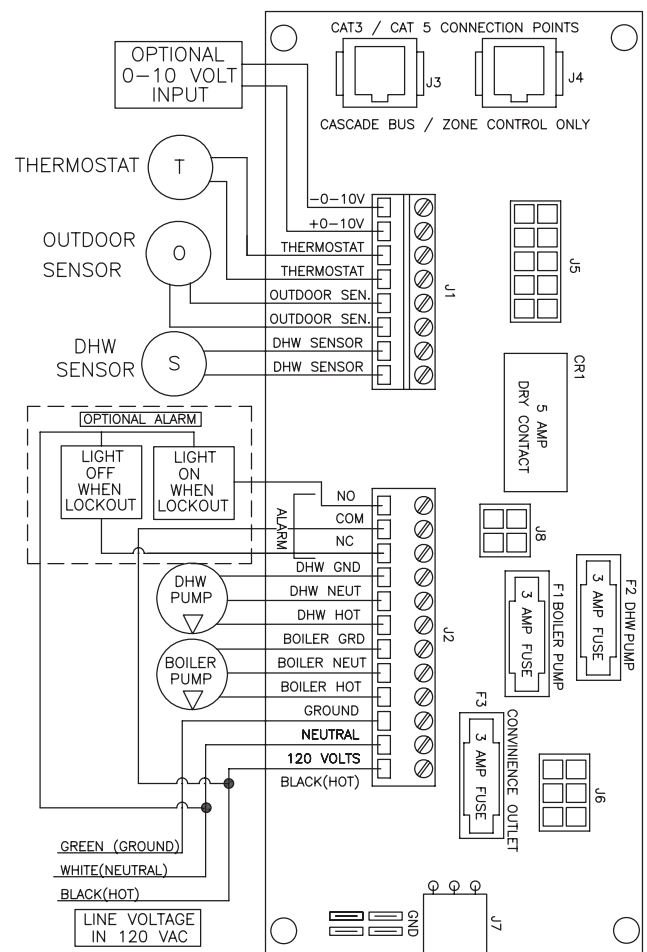

Fig. 16: XFire Single Heater Control
1. Connect the room thermostat to the terminals marked THERMOSTAT in the electrical junction box (shown in Fig. 16). Alternately, any dry contact closure across these terminals will enable the XFire unit to run. Caution should be used to ensure neither of the terminals becomes connected to ground.
2. If using an Outdoor Sensor, connect the wires for sensor to the terminals marked OUTDOOR SEN (shown in Fig. 16) in the electrical junction box. Caution should be used to ensure neither of these terminals becomes connected to ground.
3. Connect the indirect tank sensor to the terminals marked DHW SENSOR (shown in Fig. 16) in the electrical junction box. Caution should be used to ensure neither of these terminals becomes connected to ground.
2. Connect a building management system or other auxiliary control signal to the terminals marked +0–10 V and -0–10 V in the electrical junction box (shown in Fig. 16) Caution should be used to ensure that the +0–10 V connection does not become connected to ground.